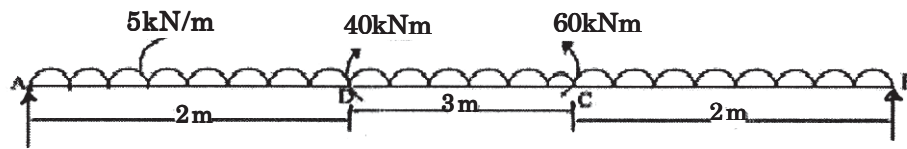

Figure 5.1
5. (a) Draw SFD & BMD for a simply supported beam as shown in figure 5.1 [7]